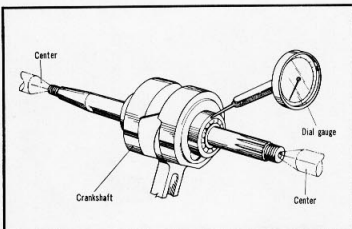

Figure 3-73. Measuring axial clearance
- (2) The clearance in the bearing is measured by fixing the crankshaft on centers and moving the bearing in the axial and vertical direction. (Fig. 3-73)